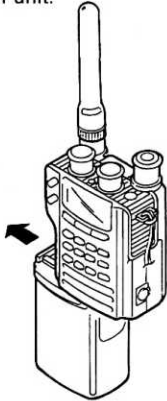

Figure 4-7
- a) Remove the battery case from the main unit as shown in Figure 4-7. The connector for the memory unit (CMU161) is located on the base of the main unit.